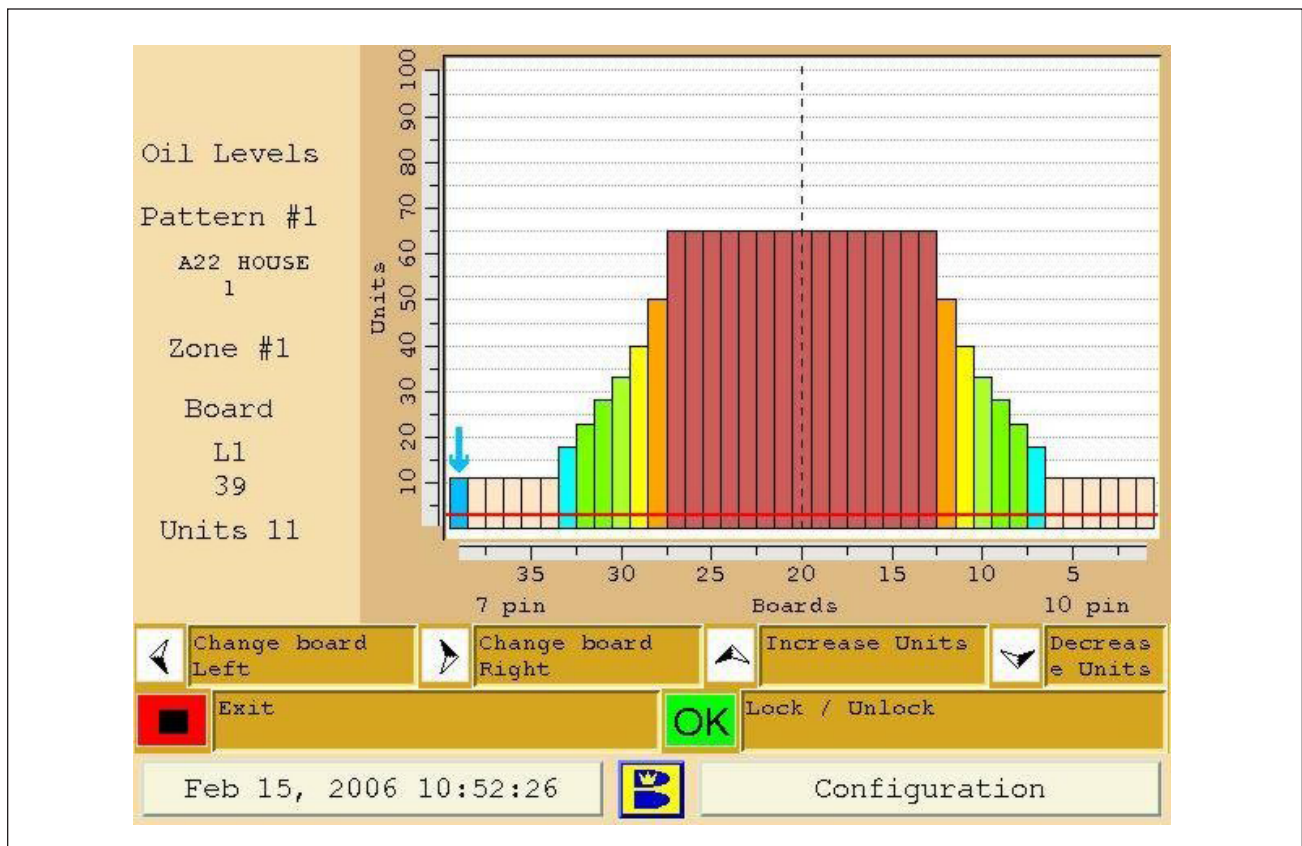

Figure 7-4. Oil Levels
The oil levels screen allows you to create the shape and levels of the conditioner pattern in units of oil. Minimum and maximum levels range from 0 to 100 units. To create the proper lengthwise taper of a pattern, oil levels, from zone to zone, should decrease between 15% and 30%. This is the same for sport and recreational patterns. The percent decrease from zone to zone depends on the starting oil level in the first zone. If the first zone conditioner level is lower (60 units or less) the percentage decrease in the following zones will be smaller and if the first zone conditioner level is higher (above 60 units), the percentage of decrease is higher. The last zone or buff zone should have 1 to 3 units set in the oil level screen on at least one board. This allows the machine to buff the remaining zone of the pattern, in both directions, without injecting conditioner and enhance the lengthwise taper. Set all boards for zero (0) and the machine will buff the last zone in the forward direction of travel only. This increases the lengthwise taper even more. Refer to Figure 7-4.